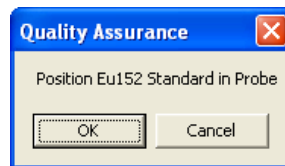

Figure 5-7
10. If you are continuing with Eu152, the screen appears as shown in Figure 5-7. Place the Eu152 source in the selected detector in the same position as Cs137 and click the button.